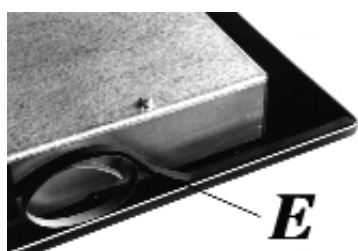

FIG. 8
- Overturn the hot plate and correctly position seal "E" (fig. 8) under the edge of the hob itself, so that the outer side of the seal perfectly matches the outer perimetral edge of the hob. The ends of the strips must fit together without overlapping.